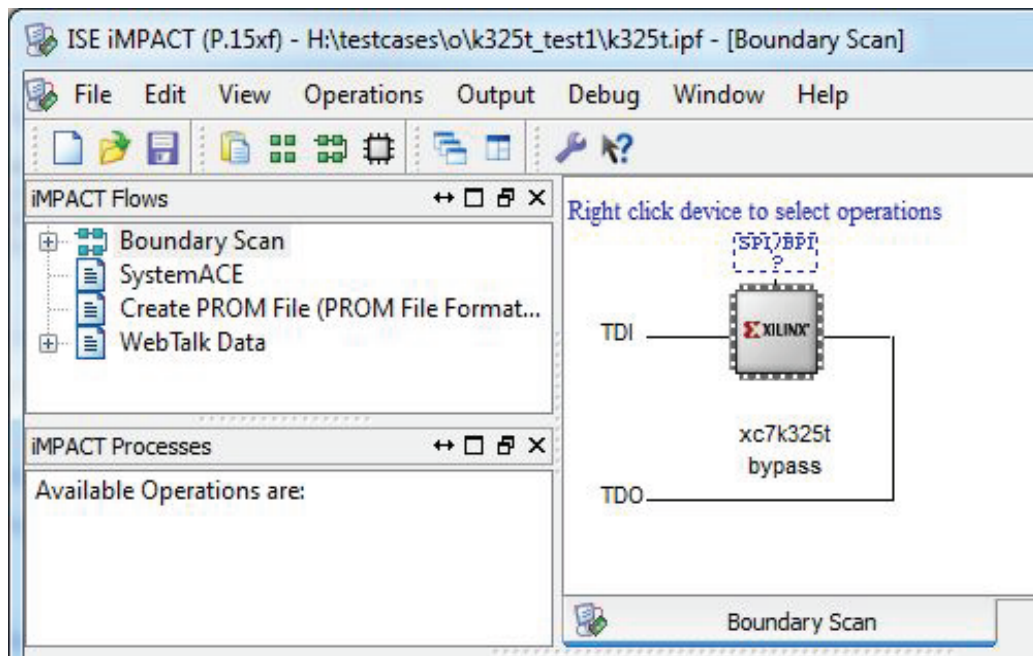

Figure 17: iMPACT JTAG Chain
Figure 17 shows the GUI interface for the boundary-scan mode.
1. Start iMPACT by double clicking the **Configure Target Device** process and then select **Boundary Scan** in the upper left box (Figure 17).